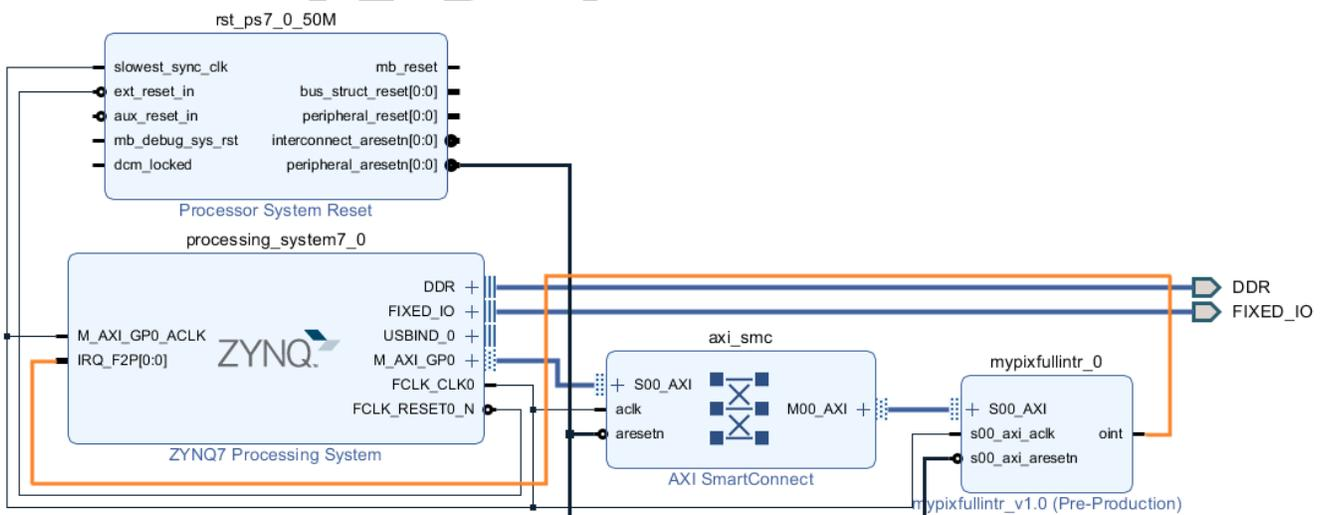

Figure 3. Connecting the oint interrupt signal to the PS (signal IRQ_F2P[0..0] with IRQ ID #61)
- ✓ Connect the *oimt* signal (see Figure 3). By default, if it is only one bit, it will connect to `IRQ_F2P[0..0]`. This is the interrupt `IRQ ID #61`. This has to be properly set up in the software routine as `'XPS_FPGA0_INT_ID'`.